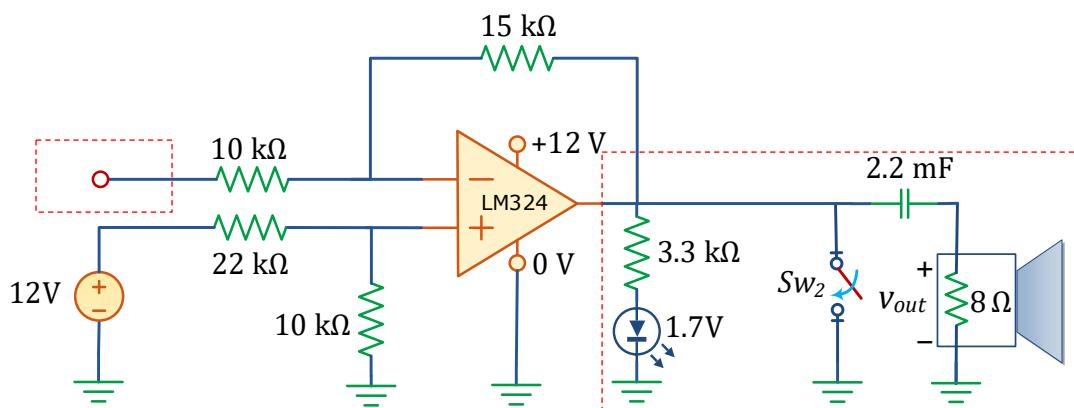

Figure 6.9. Doorbell circuit when no one is speaking to the visitor at the door.
- B.5** Use the same **inverting amplifier** circuit as before to build the doorbell circuit shown in Figure 6.9. Since we do not intend to test the speaker functionality at this stage, **there will not be any input voltage  $v_{in}$**  (i.e.,  $v_{in}$  should be an open circuit). All other functionality (light and ringing sound) will be working, given that the 12-V battery is connected. Note that given the small time constant of the RC circuit formed by the 2.2 mF capacitor and the speaker (i.e., 8  $\Omega$  resistor), the speaker makes just a short “thud” sound.